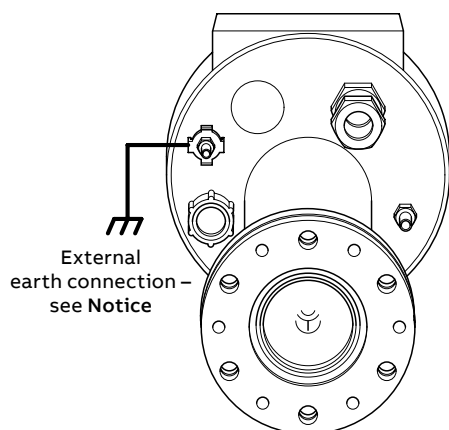

Figure 11 External earth connection
- The probe must be bonded to local earth using the external earth connection – see Figure 11.
A 4 mm earth bonding point is provided on the back of the probe head – see Figure 11.